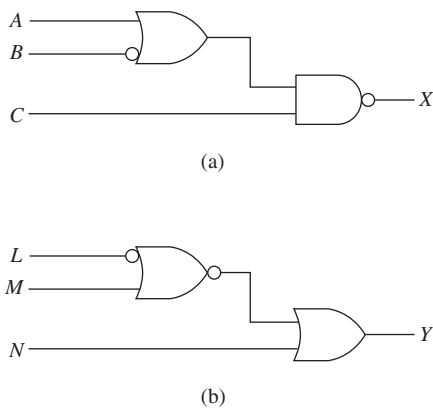

Figure P34
- C** 34. Convert the circuits of Figure P34 to their equivalents *using only* NAND gates. Next, make the external connections to a 7400 quad NAND to implement the new circuit. (Each new equivalent circuit is limited to *four* NAND gates.)